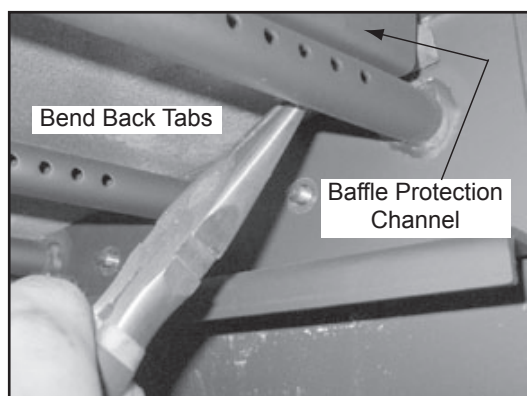

Figure 27.2
3. Locate the 2 channel nuts and two bolts inside of chamber and remove using a 7/16 socket wrench (**Figure 27.2**).